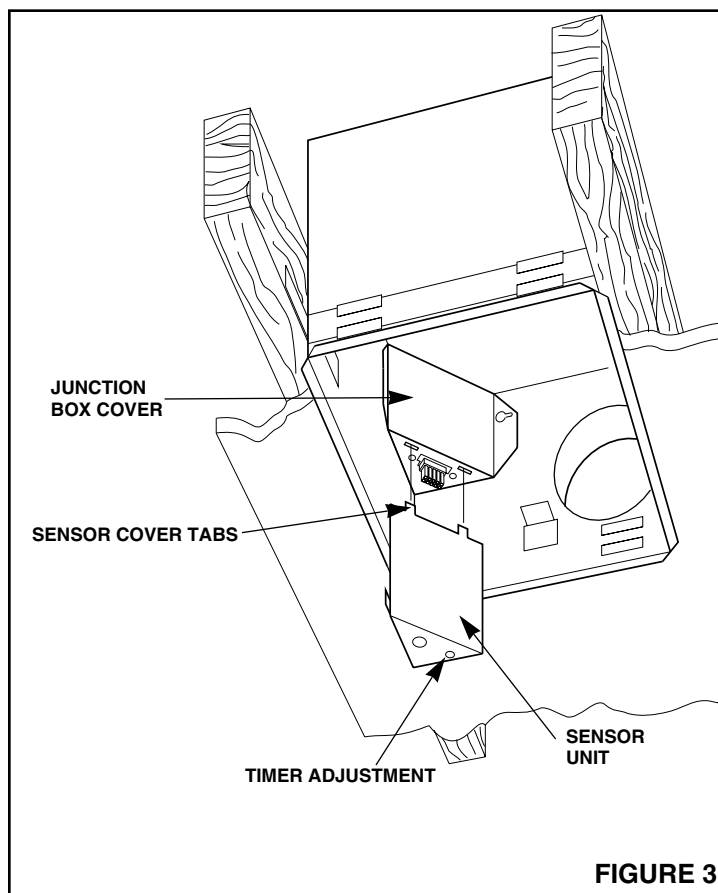

FIGURE 3
Refer Figure 3.
3. Using a small flat-blade screwdriver, slowly rotate the timer control (located in one corner of the ventilator - see figure 3) to the desired point.